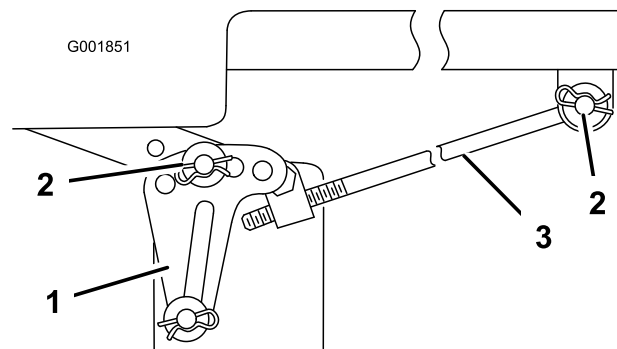

Figure 58
Note: Before removing the mower, make a note for which holes are used in the leveling brackets (Figure 58).
- Remove the hairpin cotter and washer from the adjusting rod (Figure 58) on each side of the mower.
- Remove the hairpin cotter and washer at the mower leveling brackets (Figure 58) on each side of the mower. Note which hole the leveling bracket is mounted in for future installation. Slide the brackets off of the mounting pin.
6. Attach the adjusting rod to the machine with the washer and hairpin cotter (Figure 58) on each side of the mower.
7. Slide the leveling brackets onto the mounting pins and secure them with the washers and hairpin cottes (Figure 58).